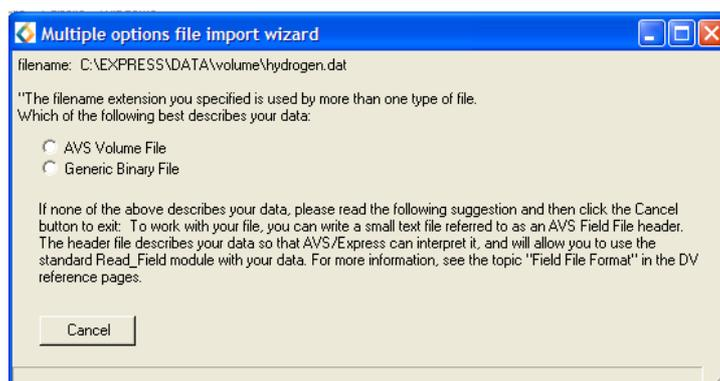

Figure C.9: Multiple Options File Import Wizard
- Select **Continue** and the **Multiple options file import Wizard** will appear as shown in Figure C.9.